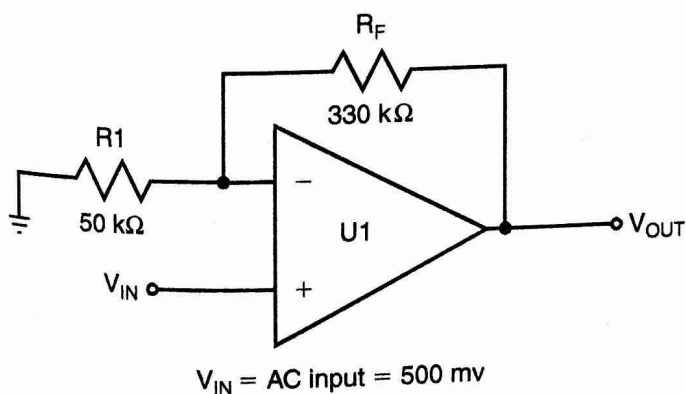

FIGURE 4-46 Op-amp circuit for Problem 4
4. Calculate the closed-loop gain and output voltage of the noninverting op-amp circuit in Figure 4-46.